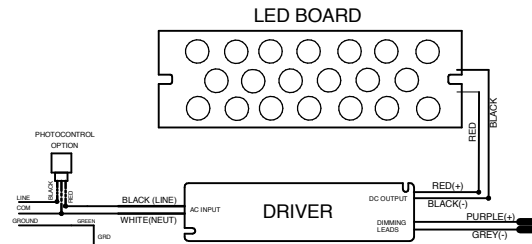

Fig 6: Wiring Diagram for RFL4 Flood
- Connect the Photocontrol as shown in Fig.6 for RFL4 or Fig 7 for RFL5.